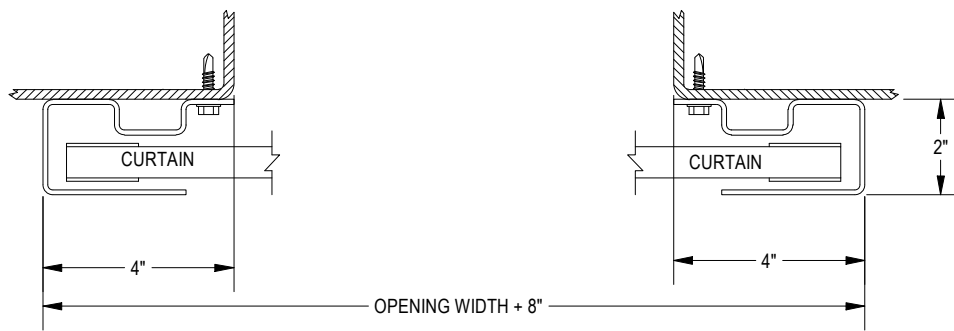

FIGURE 8: STEEL JAMBS
- **STEEL JAMBS:** $\frac{1}{4}$ " - 14 X 1". TEKS SCREW. SEE PAGE 9 FIGURE 8.